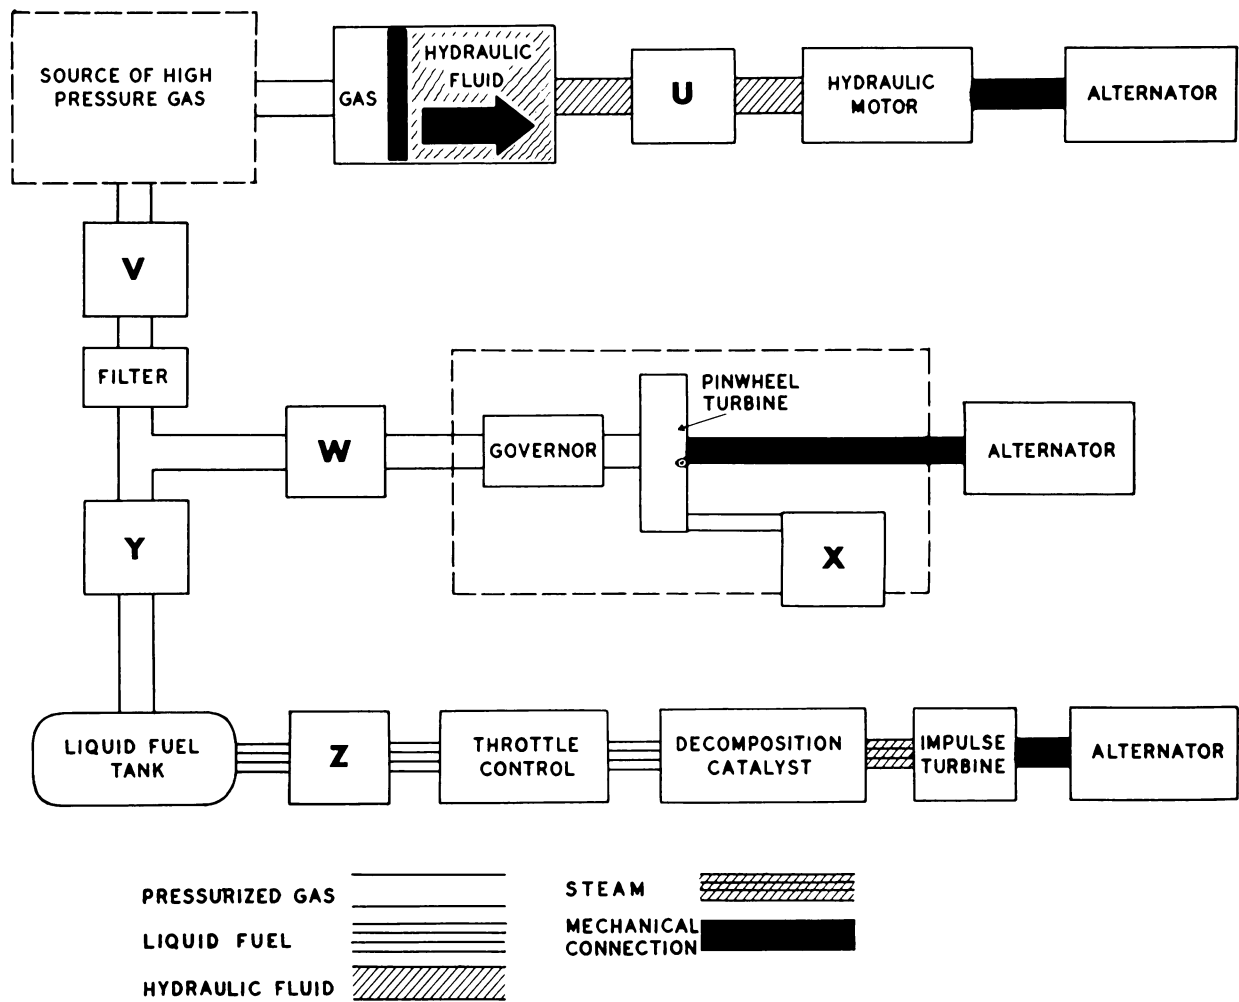
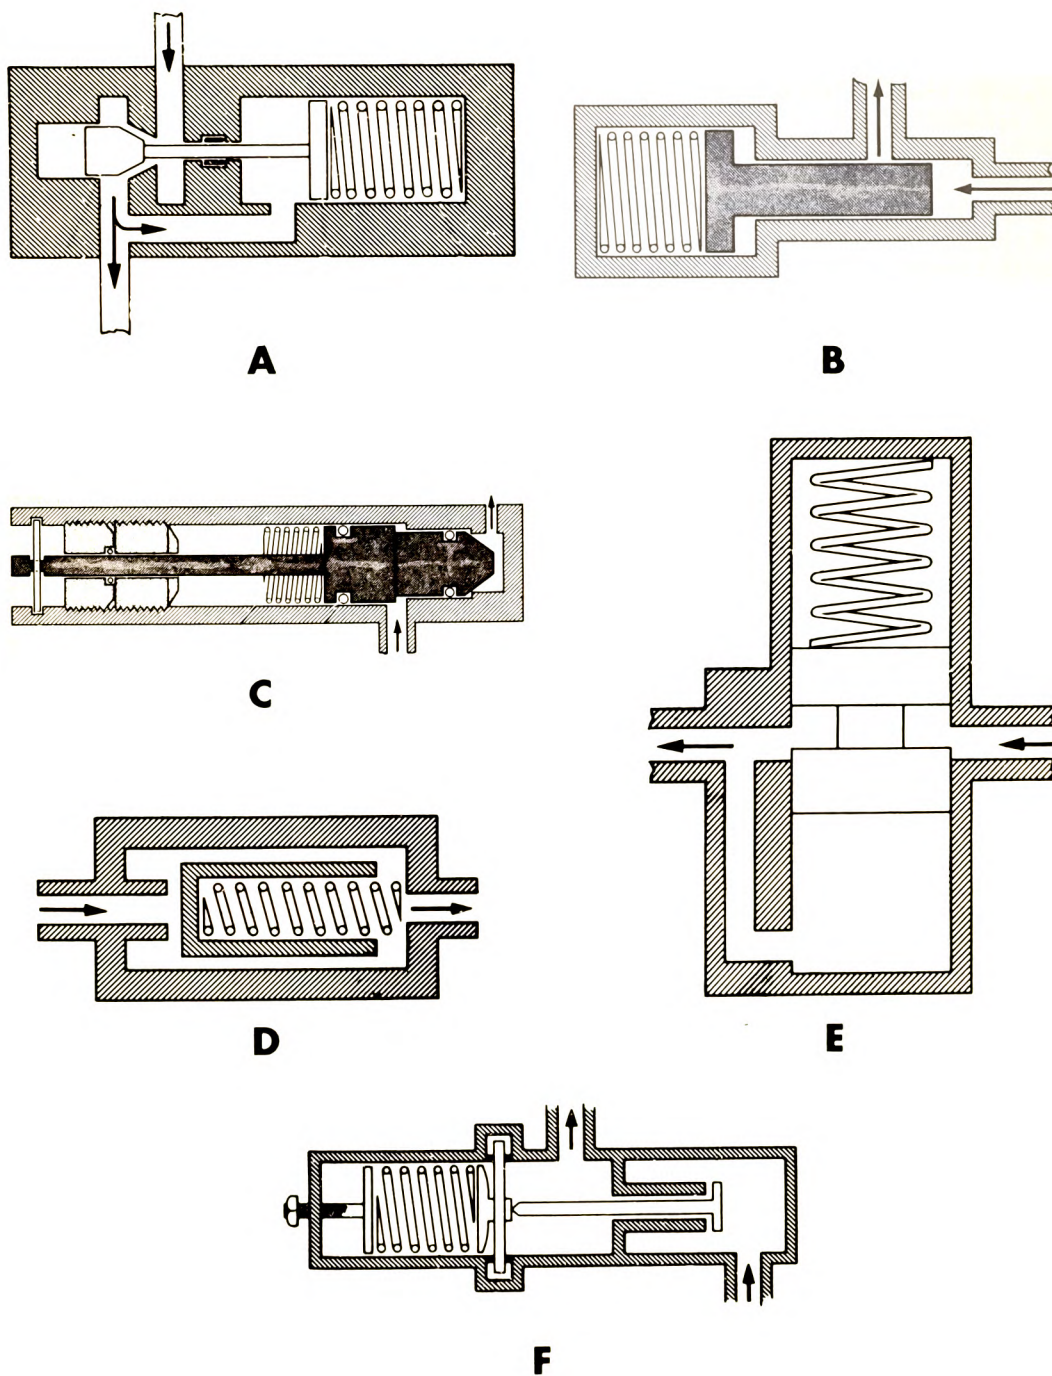

Figure 2G.—Composite system.
Figure 2H.—Types of valves.
Figure 2G is a diagram of a composite system set up to demonstrate three different systems for driving rotating electrical equipment. Items 56 through 61 are intended to teach you how the valves shown in figure 2H are used in such systems.
56. The valve at point V in figure 2G is designed to release the high-pressure gas to the rest of the system as soon as the release pin is removed. What valve in figure 2H most closely resembles the valve used at point V?
57. The purpose of the valve at point W in figure 2G is to lower the high input pressure to the optimum operating pressure for the pinwheel type turbine. A constant output pressure is maintained by the action of a diaphragm that controls gas flow. What valve in figure 2H most closely resembles the valve used at point W?
58. The valve at point X in figure 2G is used to vent the gas to the atmosphere after it has been used to power the pinwheel turbine. This valve is opened by very slight pressure and functions mainly to keep outside air from entering the system when the turbine is not being operated. What valve in figure 2H most closely resembles the valve used at point X?
59. The valve at point Z in figure 2G serves to ensure that the fuel flow will be unidirectional. What valve in figure 2H most closely resembles the valve used at point Z?
60. The valve at point U in figure 2G makes use of a spring-loaded piston to regulate the flow of hydraulic fluid so that the pressure at the outlet of the valve remains constant. What valve in figure 2H most closely resembles the valve used at point U?
61. The valve at point Y in figure 2G serves to lower the high input pressure to the value needed to pressurize the fuel system. Regulation of the output pressure is accomplished by a spring-loaded differential piston linked to a poppet valve that controls gas flow. What valve in figure 2H most closely resembles the valve used at point Y?
63. The hydraulic motor shown in figure 2G is of the rotating barrel type. It has 7 pistons fed by 6 cylinder ports. The extra piston functions to
64. What type of fuel is normally used to power an impulse turbine such as the one shown in figure 2G?
65. What kind of turbine is used in a liquid propellant system like the one shown in figure 2G?